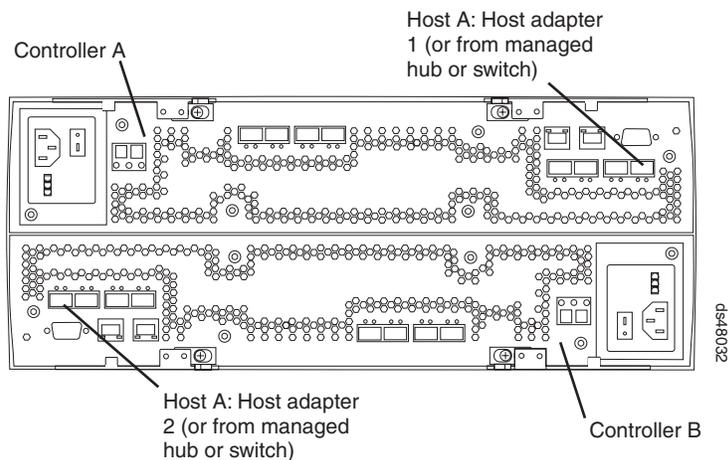

Figure 48. Location of host cables on RAID controllers
2. Connect the fibre channel cables from the SFP modules in the DS4800 RAID controller host ports to either the SFP modules in the fibre channel switch or the SFP modules of the host bus adapters. Figure 48 shows the location on the RAID controllers where the host-system cables connect.